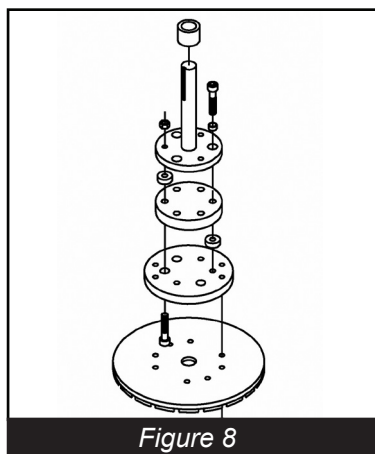

Figure 8
- Rigid Head** can be used on uneven expansion joints, high spots, joint curls and bridge decks, removing coatings and grinding rough concrete surfaces. Use with a vacuum or water for dust control but not the same time. (*Figure 8*)
- Each new machine is shipped with a RIGID HEAD (FLEX HEAD OPTIONAL) 10"/255 mm factory balanced disk. It is important to maintain the coupling to which the disk is attached. A worn coupling, damaged bearings or a bent shaft will cause the grinding discs to wear unevenly. (*Figure 8 rigid head assembly & 9 flex head assembly.*) It is important to note FLEX HEAD for smooth flat surfaces, RIGID HEAD for buckled, bumpy or rough surfaces.